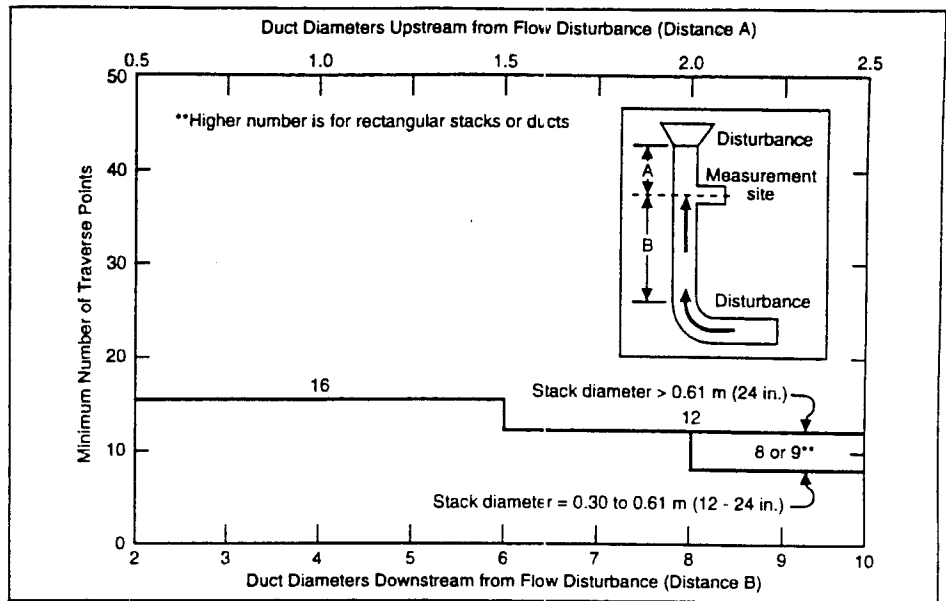

Figure A-2. Minimum number of traverse points for velocity (nonparticulate) traversers
Step 3. Determine the number of traverse points for a velocity determination using Figure A-2.